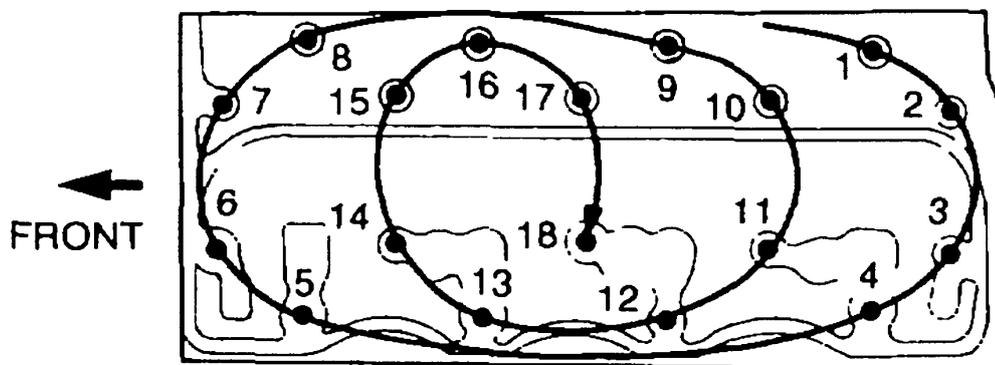

Figure 16 Cylinder Head Bolts - Removal
- ee.** Loosen the cylinder head bolts in the sequence shown (Figure 16).